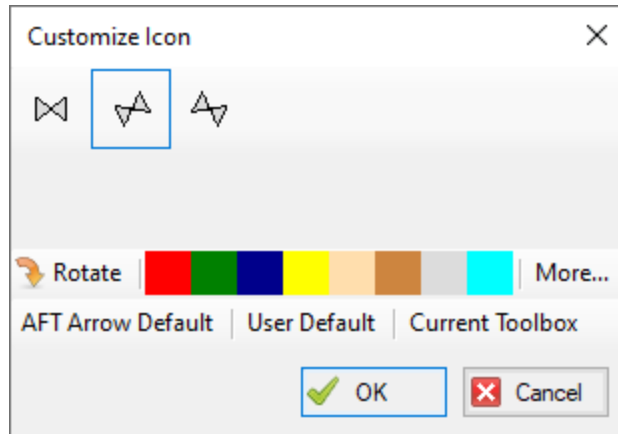

Figure 10: Right click on the junction to open the *Customize Icon* window and select the preferred icon and rotation
4. You will notice that placing junctions onto the Workspace follows the usual rules, however, the visual appearance of the icons can be more complex than on a 2D grid. Due to the increased number of axes, the preferred icon and rotation can be selected to obtain visual consistency. Right click on J7 and select Customize Icon. Click the Rotate button and select the icon shown in Figure 10.